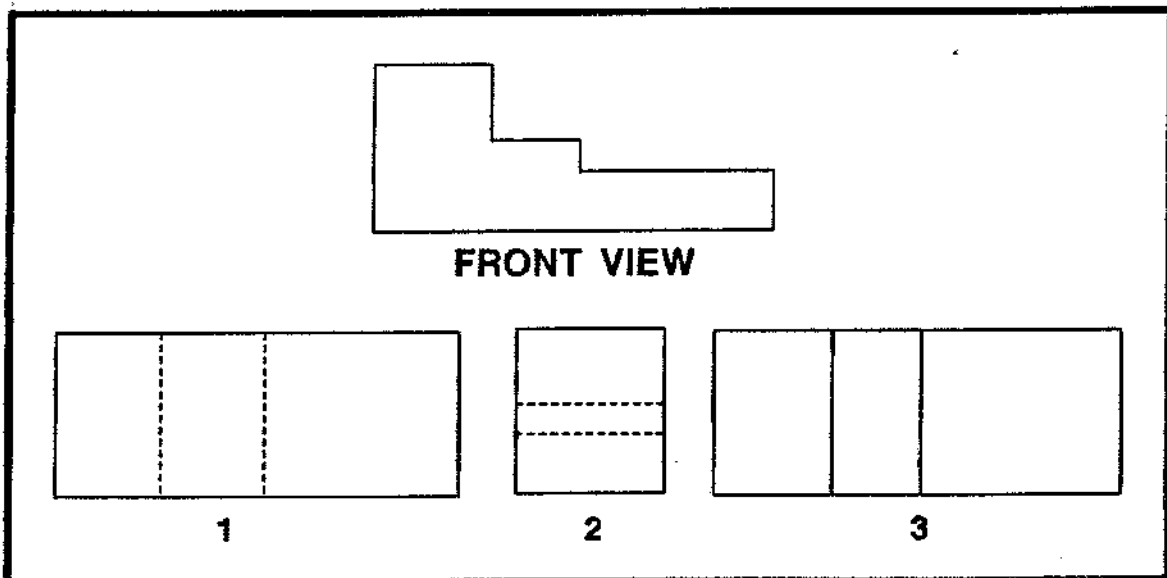

Fig. 3.3 Object Views.
5. (Refer to figure 3.3) Identify the bottom view of the object.